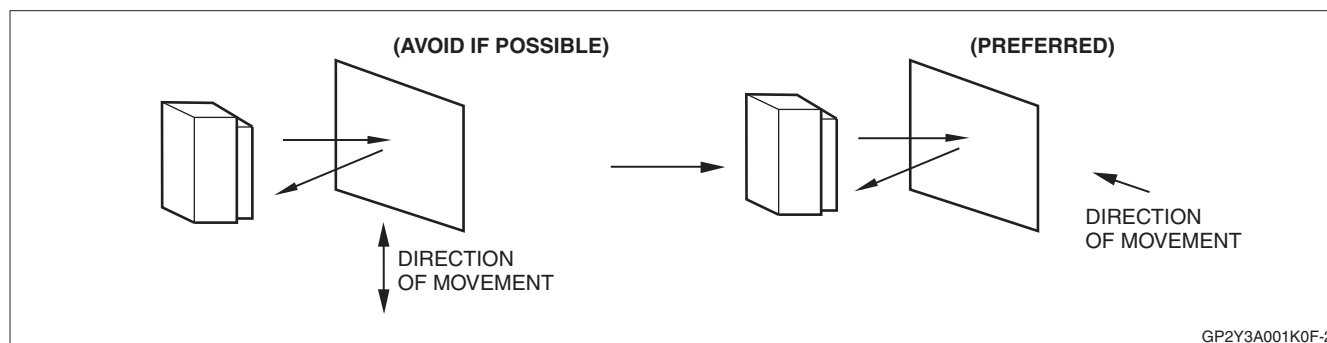

Figure 6. Proper Alignment to Moving Surfaces
- When measuring the distance to objects in motion, align the sensor so that the motion is in the horizontal direction instead of vertical. Figure 6 illustrates the preferred alignment.